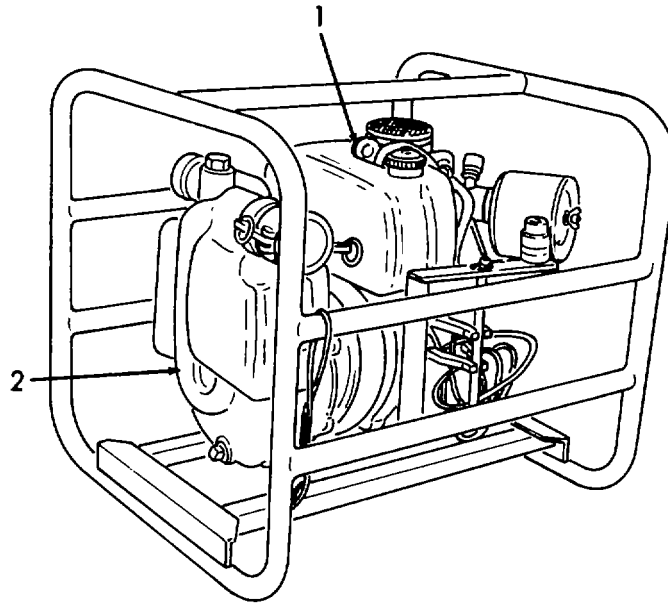

Figure 1-4. Engine and Pump.
Refer to figure 1-4. The engine (1) provides the necessary power for the pump. The engine is lubricated by a centrifugal pressure system. The engine is cooled by means of a flywheel fan, which blows cool air through crankcase housing parts onto the cylinder. The engine fuel system includes a fuel tank, fuel lift pump, fuel injection pump, and a fuel filter. The fuel lift pump pumps fuel from the fuel tank, through the fuel filter, to the fuel injection pump to the injector.
Refer to figure 1-4. The pump (2) uses power from the engine to pump fuel from the suction intake coupling to the discharge coupling. The pump includes a impeller and pump case with suction (intake) and discharge couplings. The pump case houses the impeller which draws fuel in through the suction (intake) coupling and forces it out of the pump through the discharge coupling.